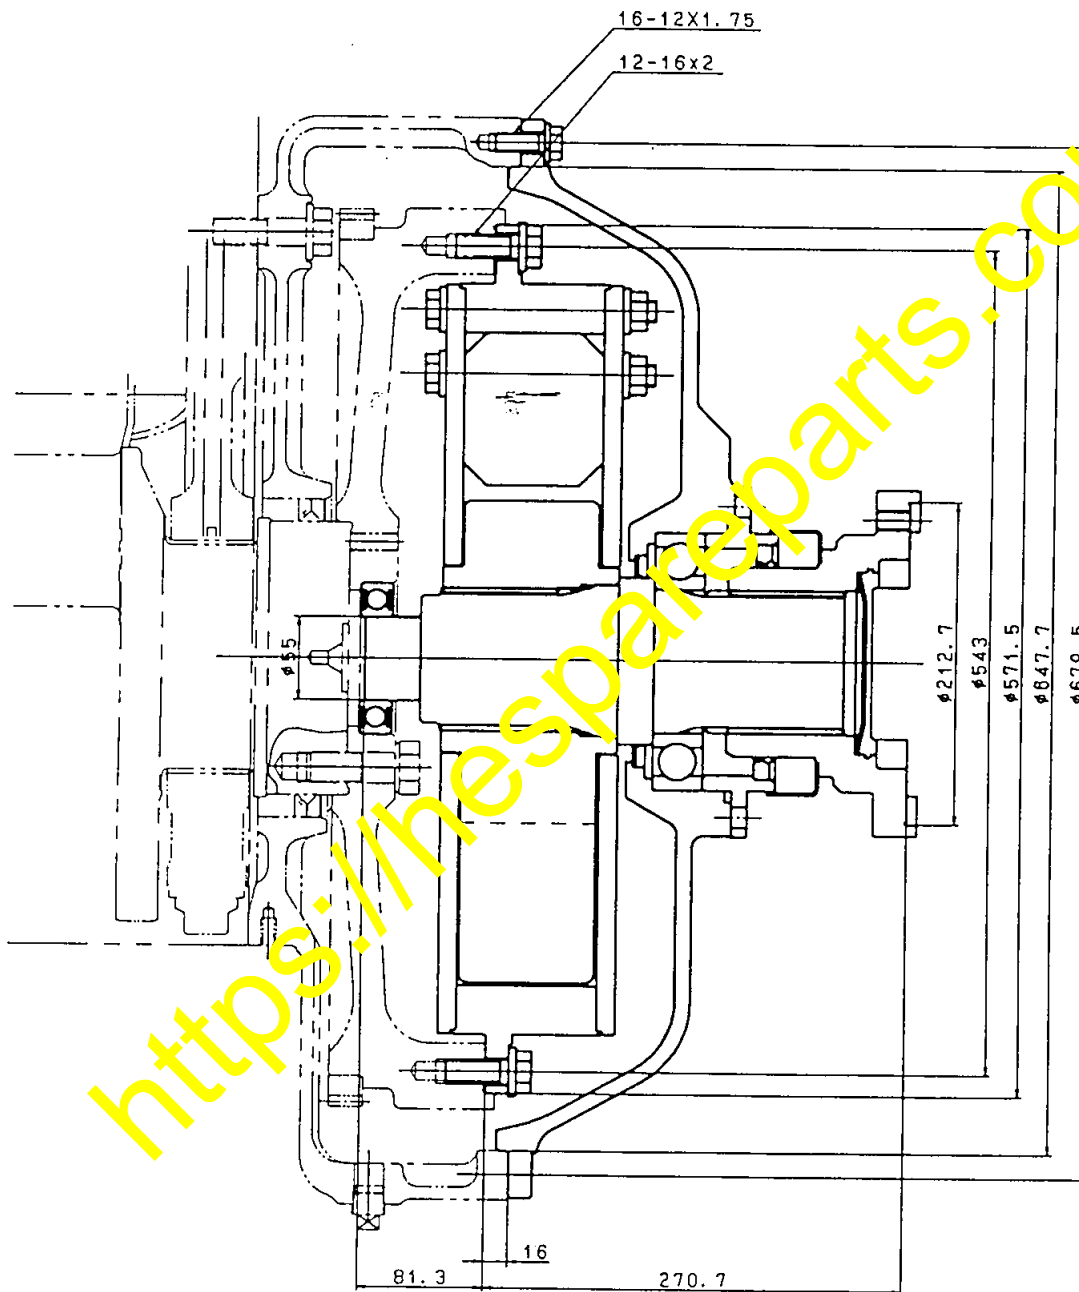

Fig. 7a
- (1) Use the engine assembly (6215-29-PB10) on which #18 flywheel is loaded.
- (2) Overhaul the present output shaft (561-01-12001 or 561-01-12002) and replace the consumable parts with new ones. (See Figs. 7a and 7b)